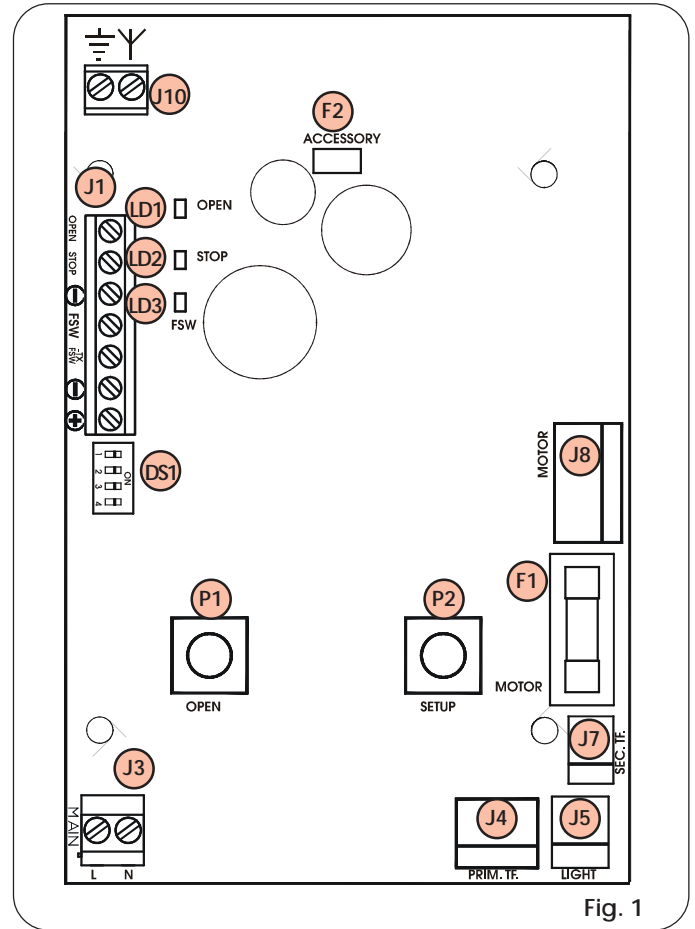

Fig. 1
The 531R control unit (Fig. 1), installed on 531R and 531K operators, has an integrated receiver (433 MHz) to command, by remote control, the opening and closing of the automated system, and does not require any outside radio receivers.
- 1) To learn the remote-controls, turn switch No.3 of the DS1 programming dip-switches to ON position (Fig.1).